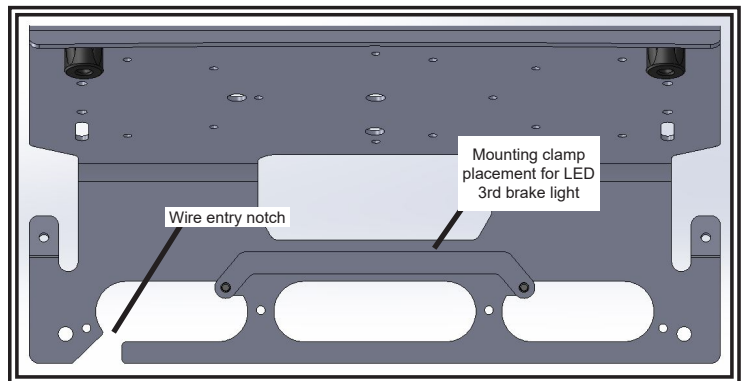
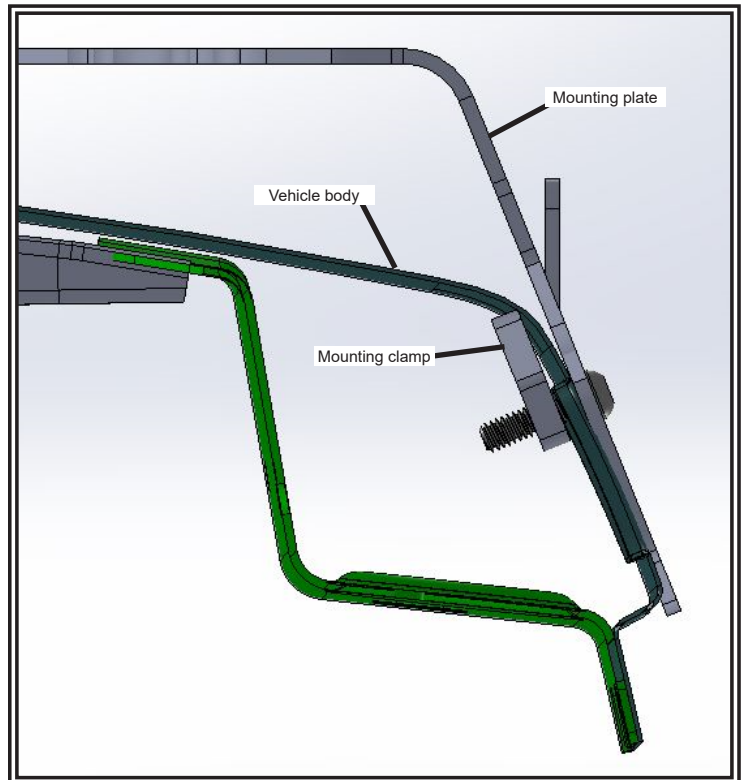

Figure 2
Figure 3
4. Place the mounting clamp inside the vehicle body in the position shown in FIGURE 2. The mounting clamp and the mounting plate should sandwich the body of the vehicle as shown in FIGURE 3.